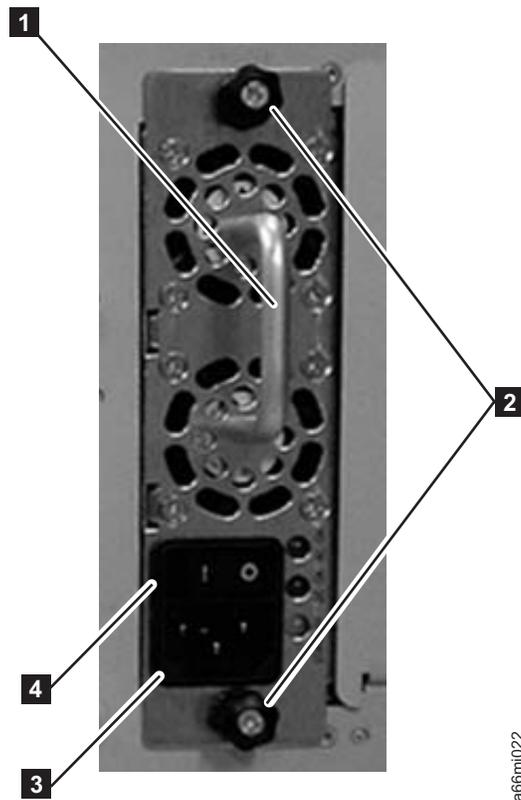

Figure 8-32. Power Supply
**Attention:** First, disconnect the power cord from the power source. Then, disconnect the power cord from the power supply receptacle (**3** in Figure 8-32).
3. Loosen the two thumb screws (**2** in Figure 8-32) by turning them counterclockwise.
4. Grasp the handle (**1** in Figure 8-32) and slowly pull the power supply toward you, while supporting it from underneath.
2. Grasp the power supply handle (1 in Figure 8-32 on page 8-36) while supporting it from underneath. Then, line up the power supply with the guides in the slot, and carefully push the power supply into the library.
3. Tighten the two thumb screws (2 in Figure 8-32 on page 8-36) on the power supply by turning them clockwise.
**Attention:** First, connect the power cord to the power supply component (3 in Figure 8-32 on page 8-36). Then, connect the power cord to the power source.
5. Toggle the power switch (4 in Figure 8-32 on page 8-36) on the power supply to the I (ON) position.
2. Toggle the redundant power supply power switch (4 in Figure 8-32 on page 8-36) to the O (OFF) position.
3. Unplug the power cord from the redundant power supply receptacle (3 in Figure 8-32 on page 8-36).
4. Loosen the two thumb screws (2 in Figure 8-32 on page 8-36) by turning them counterclockwise.
5. Grasp the handle (1 in Figure 8-32 on page 8-36) and pull the power supply toward you. Support the component from underneath with your other hand.
3. Insert the redundant power supply by gripping the handle (1 in Figure 8-32 on page 8-36), sliding it into the guide slots, and pushing it into the empty slot.
4. Tighten the two thumb screws (2 in Figure 8-32 on page 8-36) that hold the redundant power supply in place.
5. Connect the power cord to the power supply (3 in Figure 8-32 on page 8-36) and to its source.
6. Turn on power to the redundant power supply, using the switch (4 in Figure 8-32 on page 8-36) on the power supply.